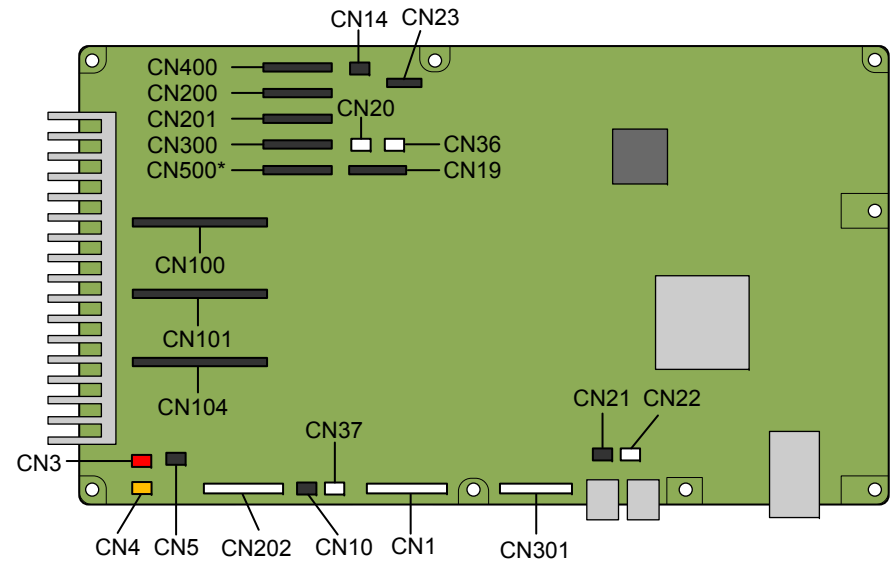

Figure 4-45. Connector locations
6. Disconnect the all cables and FFCs from the Main Board Assy. *See Figure 4-45.*